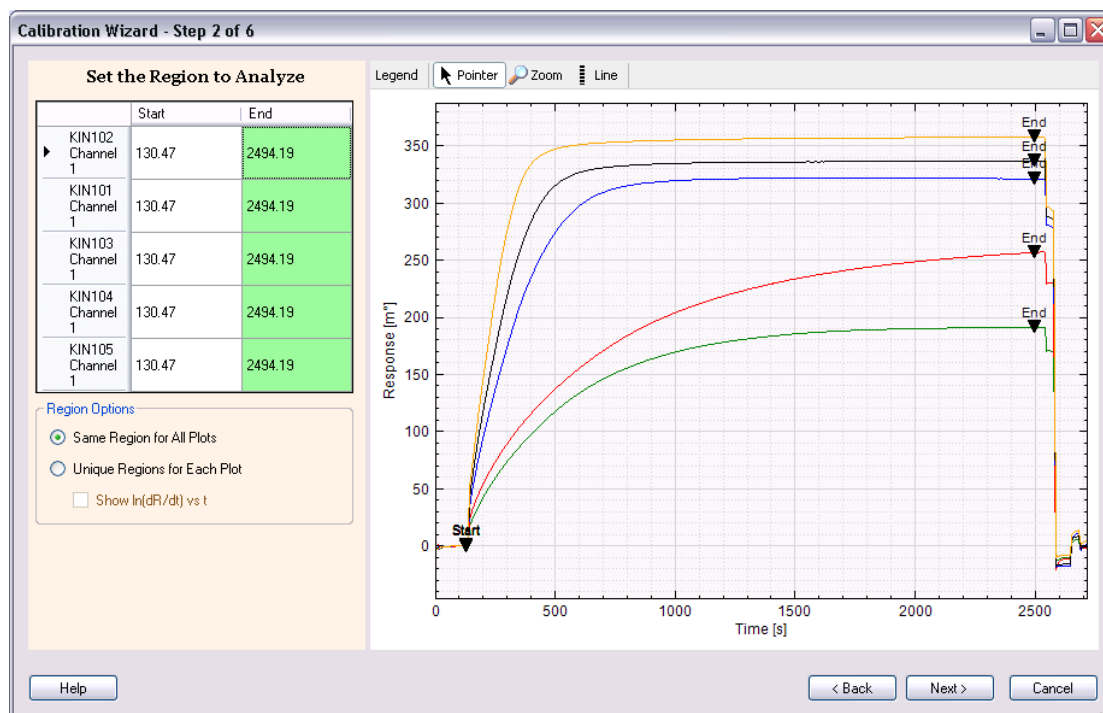

Figure 6.6 – Setting the plot ranges for a Calibration project
Step 2 is to set the plot ranges, as shown in Figure 6.6. This procedure is the same as procedure for a regular analysis.